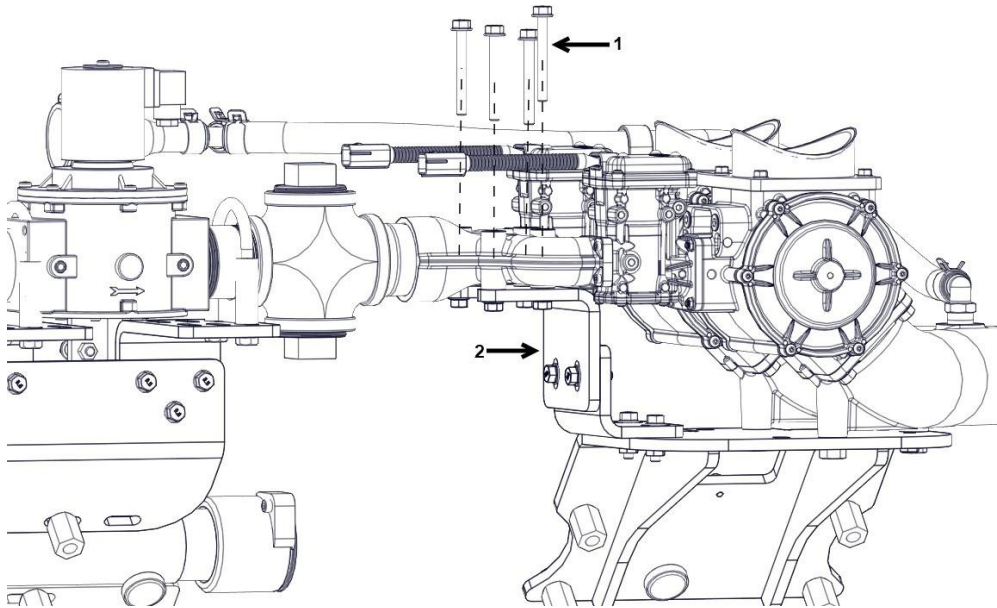

Figure 34. DEPR Bracket Assembly
5. Remove the four bolts directly above the dual DEPR bracket. (Refer to Figure 34.)